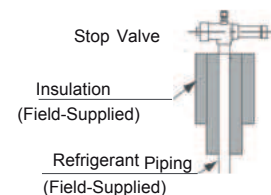

Fig.5.2 Insulation on Pipes
- Insulate the refrigerant pipes as shown in Fig.5.2. After connecting the refrigerant piping, seal the refrigerant pipes by using the field-supplied insulation material. Insulate the unions and flare nuts at the piping connections completely. Insulate the liquid piping and gas piping completely to avoid decreasing of performance and dewing on the surface of the pipe.